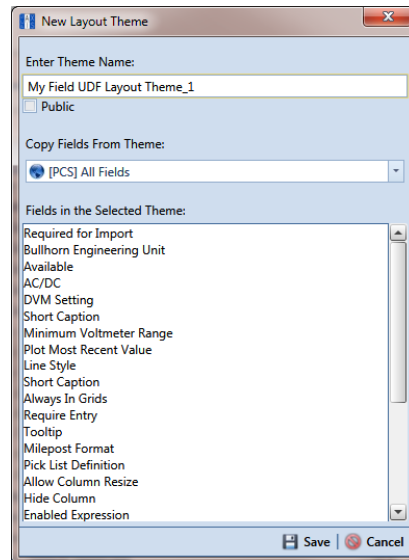

Figure 3-27. New Layout Theme
- 3 Click  **Add** to open the *New Layout Theme* dialog box (Figure 3-27).